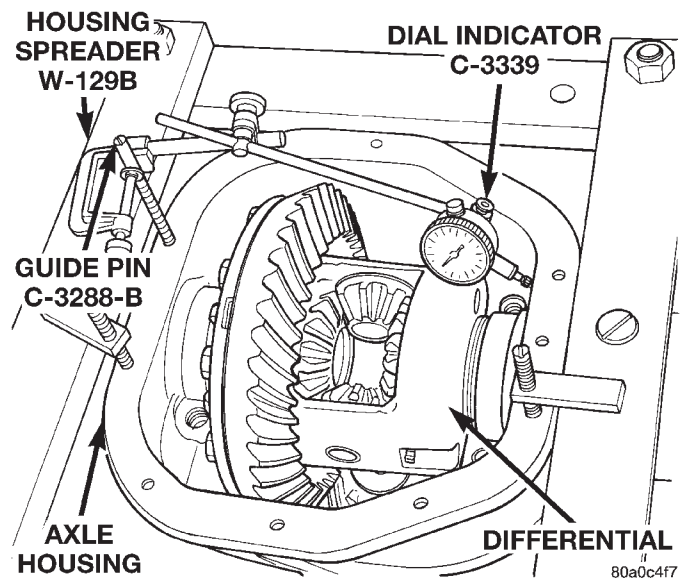
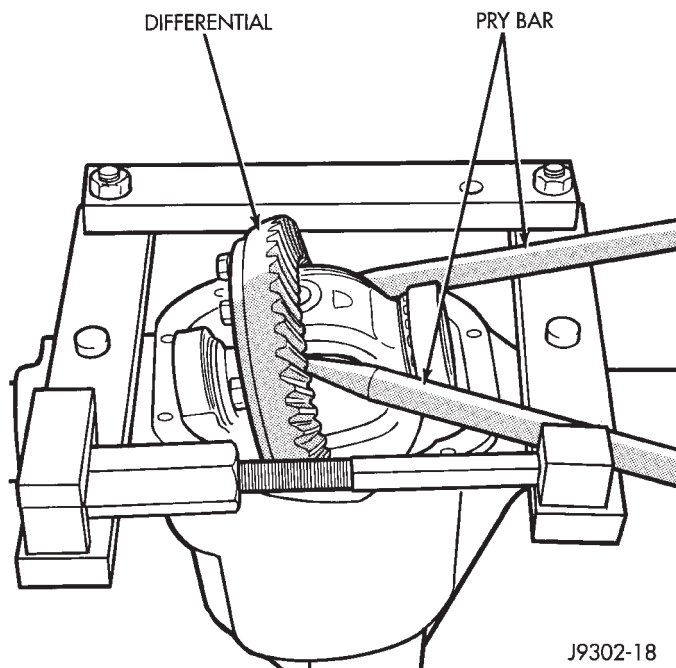
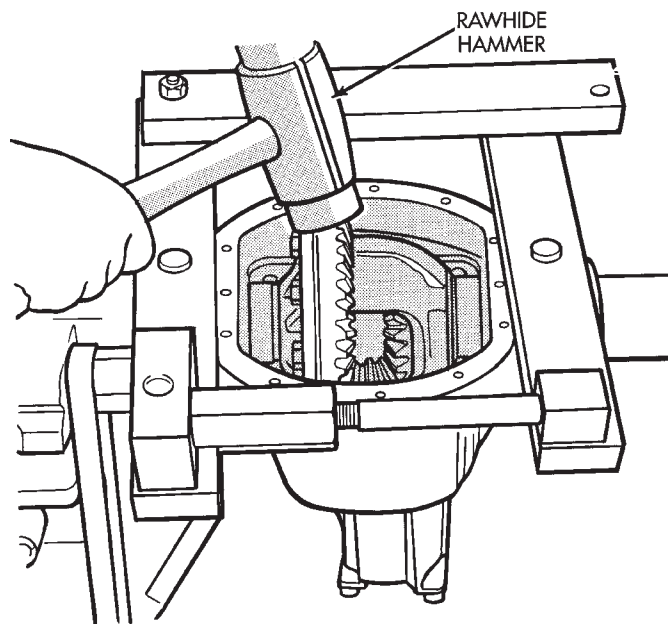

Fig. 16 Spread Differential Housing
Fig. 17 Differential Removal
Fig. 18 Differential Installation
(2) Remove the differential bearing caps.
(3) Position Spreader W-129-B with the tool dowel pins seated in the locating holes (Fig. 16). Install the hold down clamps and tighten the tool turnbuckle finger-tight.
(4) Install a pilot stud at the left side of the differential housing. Attach Dial Indicator to housing pilot stud. Load the indicator plunger against the opposite side of the housing (Fig. 16) and zero the indicator.
(5) Separate the housing enough to remove the case from the housing. Measure the distance with the dial indicator (Fig. 16).
(6) Remove the dial indicator.
(7) Pry the differential case loose from the housing. To prevent damage, pivot on housing with the end of the pry bar against spreader (Fig. 17).
(1) Position Spreader W-129-B with the tool dowel pins seated in the locating holes (Fig. 16). Install the hold down clamps and tighten the tool turnbuckle finger-tight.
(2) Install a pilot stud at the left side of the differential housing. Attach Dial Indicator to housing pilot stud. Load the indicator plunger against the opposite side of the housing (Fig. 16) and zero the indicator.
(3) Separate the housing enough to install the case in the housing. Measure the distance with the dial indicator (Fig. 16).
(4) Remove the dial indicator.
(5) Install differential and outboard shim/spacer (selected thickness) in housing.
(6) Install case in the housing. Tap the differential case to ensure the bearings are fully seated (Fig. 18). Remove the spreader.